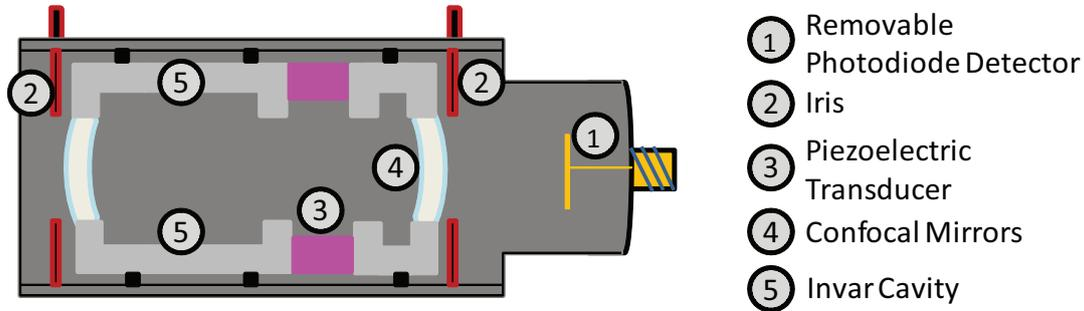

Figure 1: Fabry-Perot interferometer. (This figure is seen best in color.)
The Fabry-Perot (FP) interferometer is an optical instrument which uses multiple-beam interference. In its simplest configuration, the Fabry-Perot cavity consists of two plane, parallel, highly reflecting surfaces separated by some distance  $d$ . We will instead use a confocal FP interferometer (Figure 1) which has spherical mirrors separated by roughly their radius of curvature. In this experiment we will learn to characterize the FP interferometer and use it to diagnose the longitudinal modes of a HeNe laser.